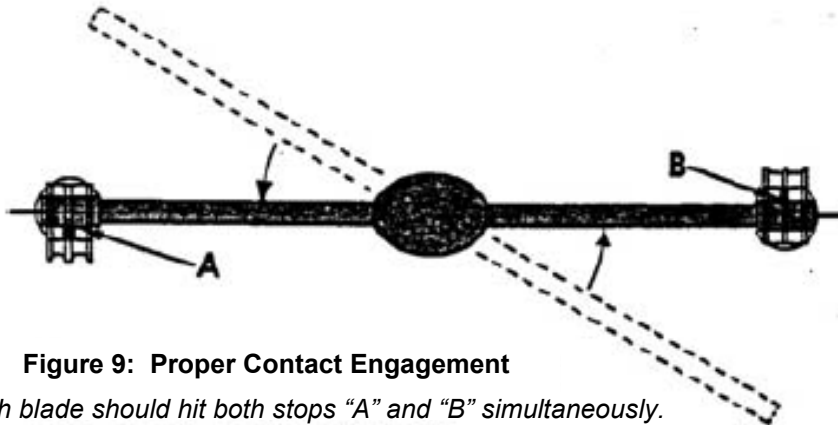

Figure 9: Proper Contact Engagement
- A. The blade tips must hit the stop in the jaws simultaneously (Figure 9). Minor misalignments can be corrected by tilting the jaw insulator stacks with the jack screws.